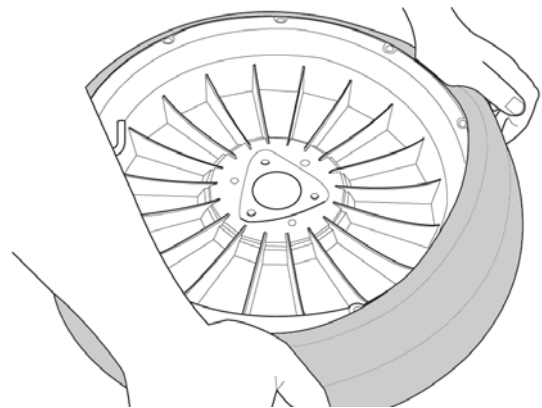

Figure 4-15: Work Outside Bead by Hand
5. Work outside bead by hand back over rim as much as possible (Figure 4-15).